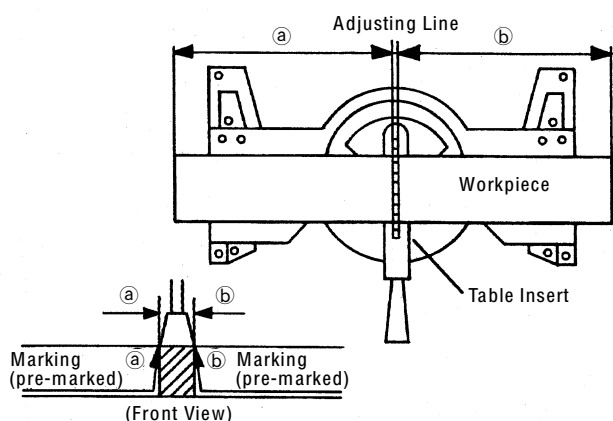

Fig. 21
- (1) As shown in Fig. 21 the width of the saw blade is the width of the cut. Therefore, slide the workpiece to the right (viewed from the operator's position) when length ⑥ is desired, or to the left when length ① is desired.
- (2) Once the saw blade reaches maximum speed, push the handle down carefully until the saw blade approaches the workpiece.
- (3) Once the saw blade contacts the workpiece, push the handle down gradually to cut into the workpiece.
- (4) After cutting the workpiece to the desired depth, turn the power tool OFF and let the saw blade stop completely before raising the handle from the workpiece to return it to the full retract position.